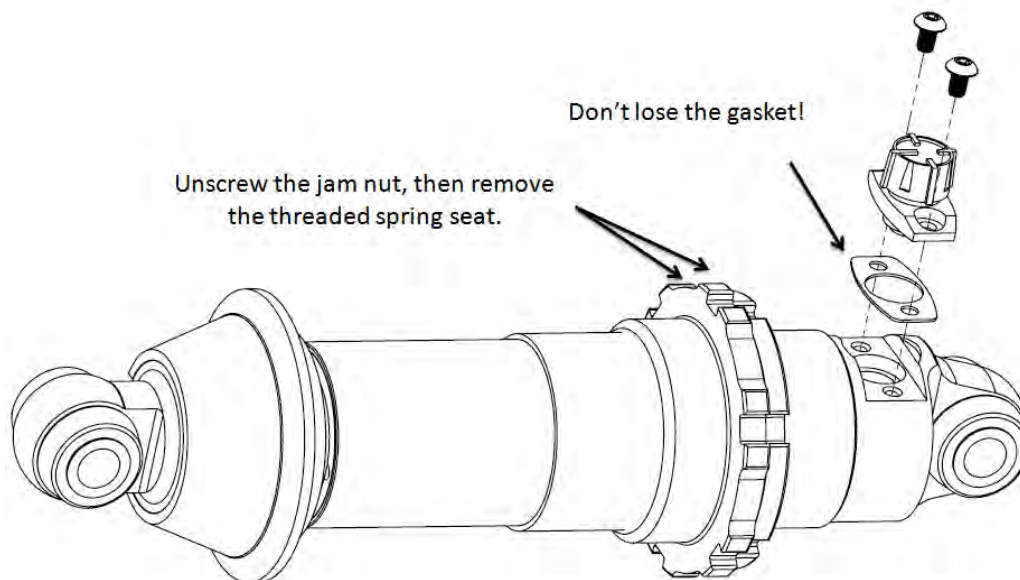

Figure 5. The shock adjustment knob must be removed for installation of the spring.
- 7) Now is a good time to install the coil springs over the shocks. To do so, the knob on the shock must be removed as shown in **Figure 5**. Unscrew the spring seat and the jam nut, slide on the spring, and re-assemble. Be sure not to lose the gasket behind the knob.